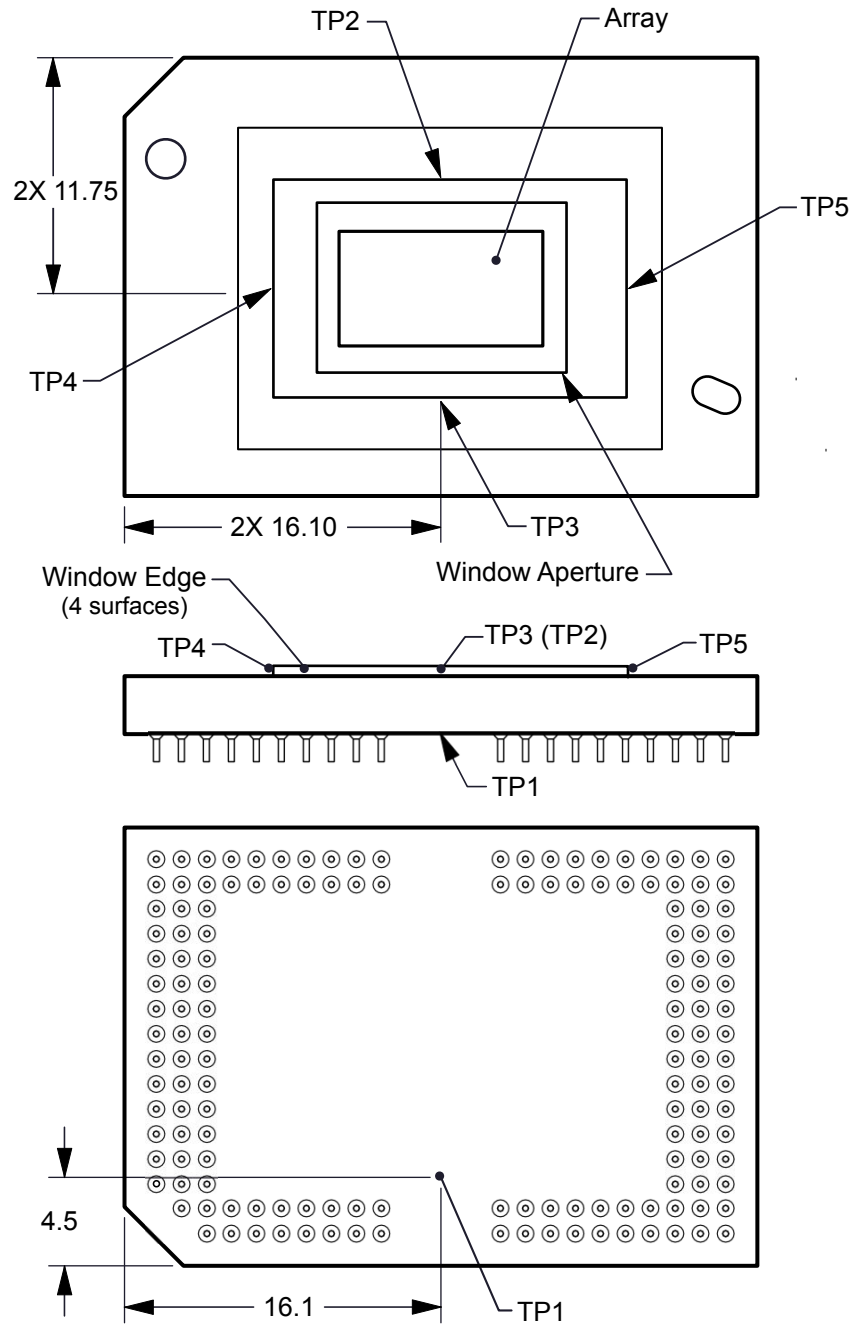

图 6-1. DMD Thermal Test Points
Micromirror array temperature cannot be measured directly, therefore it must be computed analytically from measurement points on the outside of the package, the package thermal resistance, the electrical power, and the illumination heat load. The following equations show the relationship between array temperature and the reference ceramic temperature, thermal test TP1 图 6-1 shown above:
- T_{CERAMIC} = Measured ceramic temperature ($^{\circ}\text{C}$), TP1 图 6-1
- $R_{\text{ARRAY-TO-CERAMIC}}$ = Thermal resistance of package specified in 节 5.5 from array to ceramic TP1 图 6-1 ($^{\circ}\text{C}/\text{W}$).
- Q_{ARRAY} = Total DMD Power (electrical + absorbed) on array (W).
- $Q_{\text{ELECTRICAL}}$ = Nominal electrical power (W)
- Q_{INCIDENT} = Incident illumination optical power (W)
- $Q_{\text{ILLUMINATION}}$ = (DMD average thermal absorptivity $\times Q_{\text{INCIDENT}}$ (W))